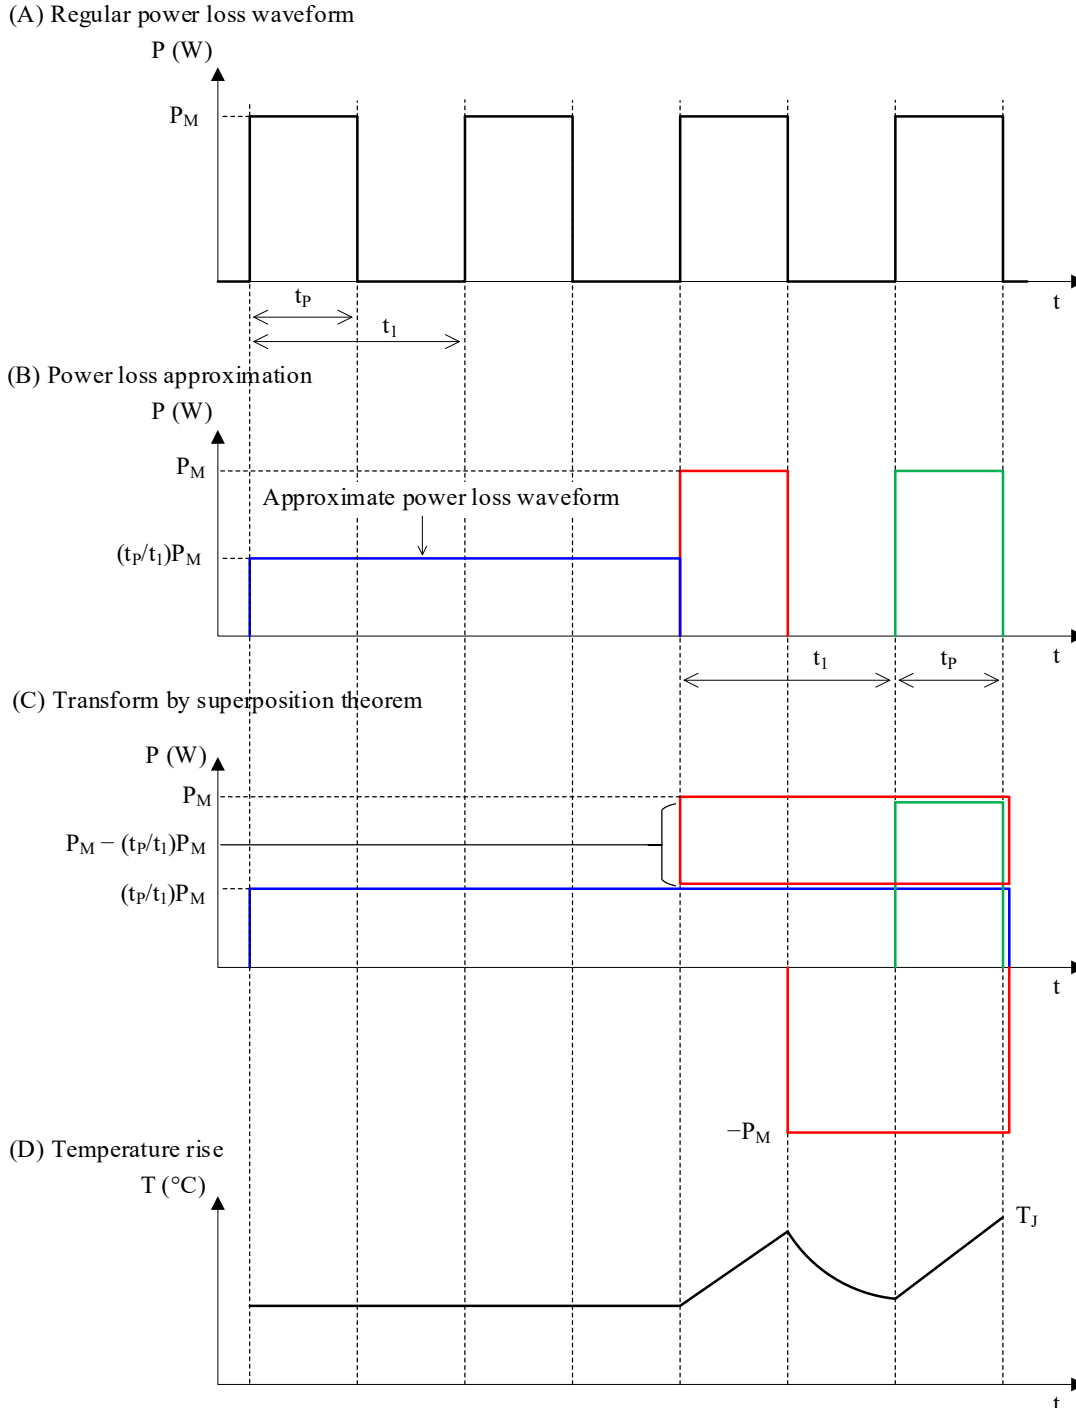

Figure 3-3. Superposition Theorem
(A) in Figure 3-3 shows the calculation of the junction temperature, T_J , when a regular square wave power loss occurs in the power MOSFET/IGBT. As shown in (B) and (C) in Figure 3-3, T_J is calculated by approximating the power loss and using the superposition theorem.
Next, the junction temperature is calculated for each block in (C) in Figure 3-3.